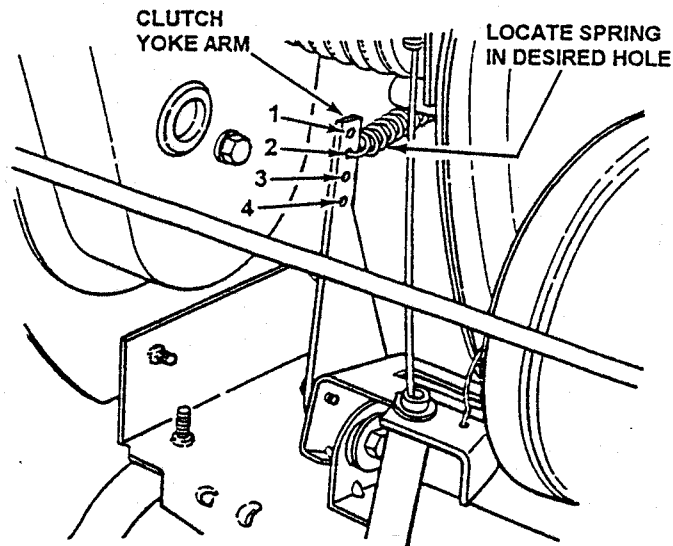

FIGURE 4.13
6. Move spring to first hole (for positive clutch action) or to 4th hole (to increase slippage). See Figure 4.13
5. Rotate clutch yoke arm (shown in Figure 4.13 on page 16) out of way by hand then work belt between drive and driven discs.